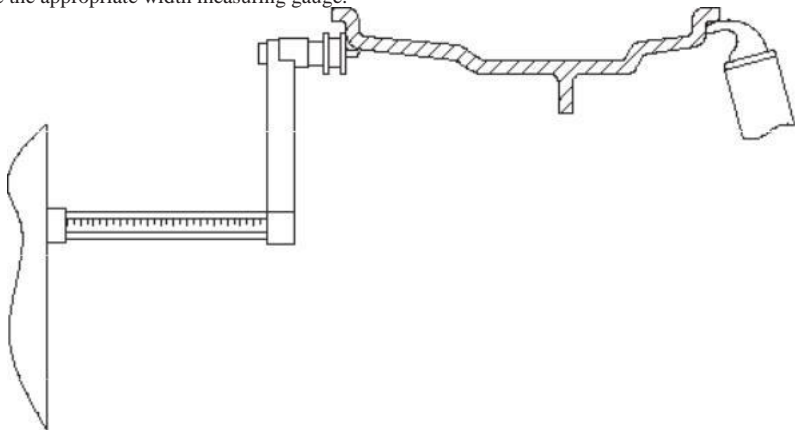

Figure F3.6 - Automatic data acquisition in the STD, ALU1,2,3,4,5 programmes
2. Extract the Distance/Diameter sensor and place it on the rim as shown in Figure F3.6.